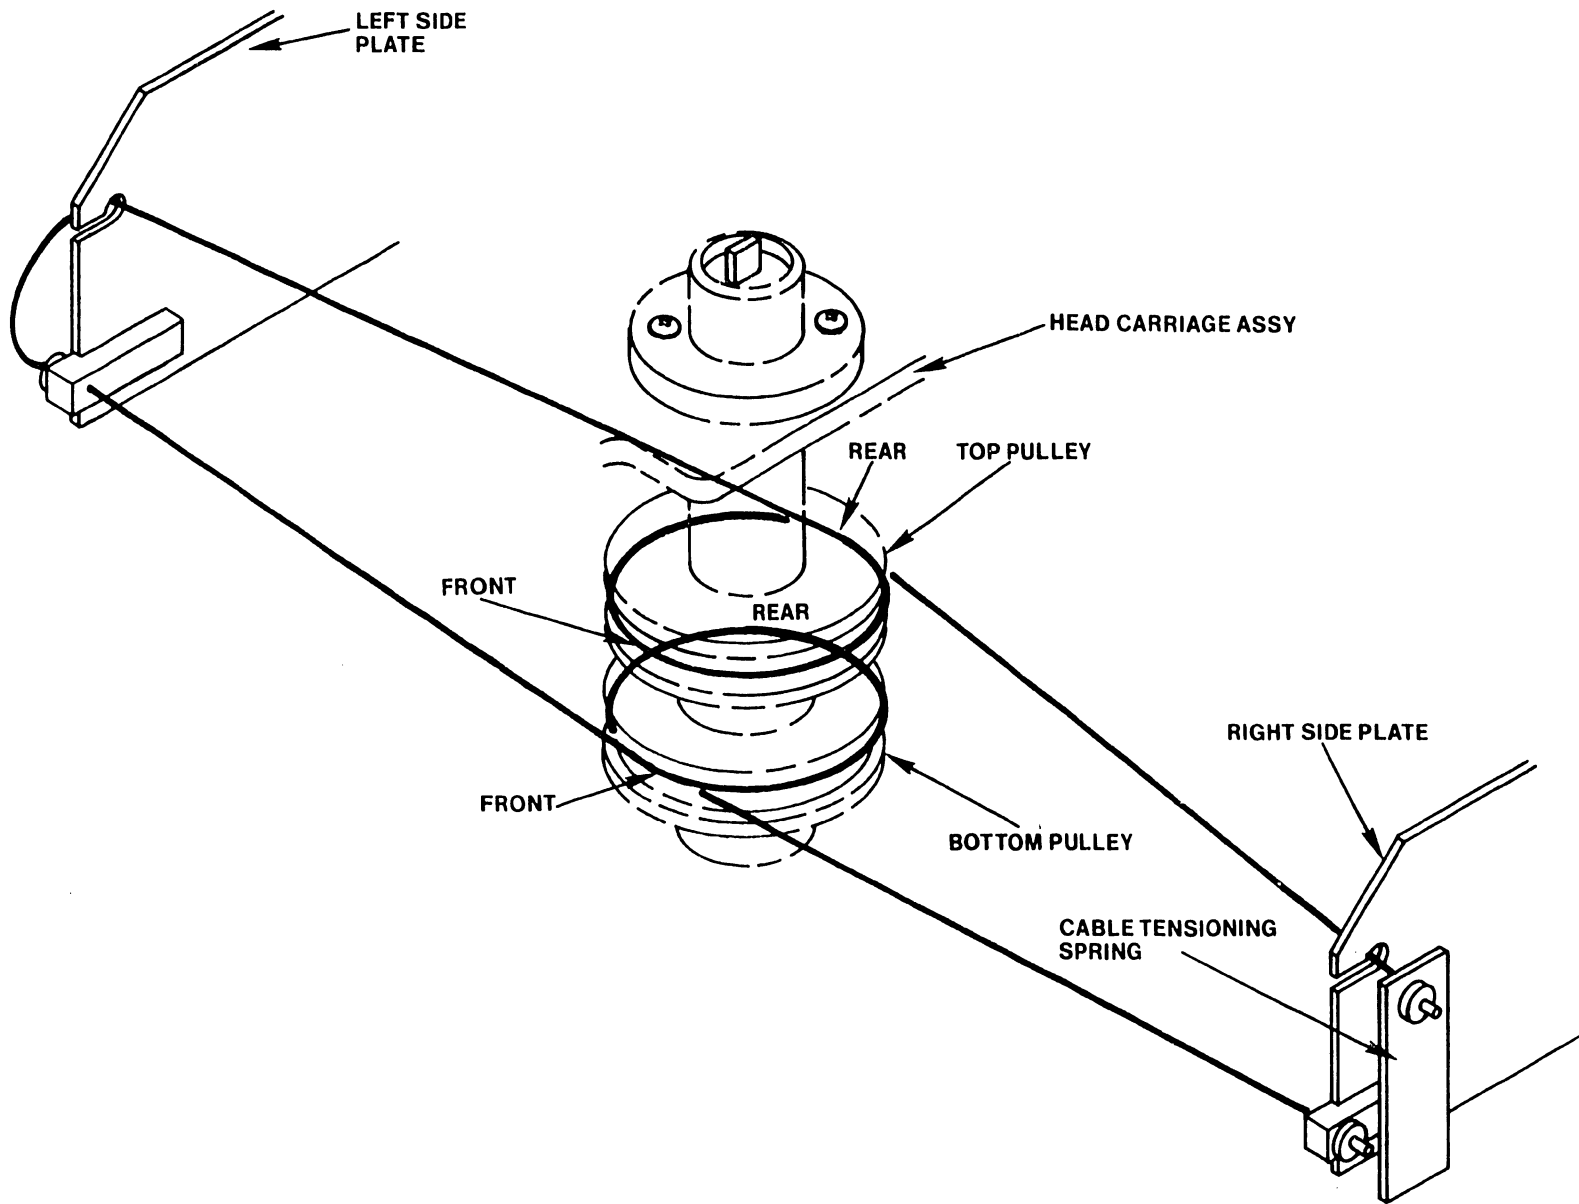

Figure 5-20 Top and Bottom Pulley Cable Diagram
- c. Reconnect the ribbon drive cable using the threading diagram shown in Figure 5-20.
- a. Remove carriage drive cable. To accomplish this, squeeze the cable tension spring located at the right end of the cable and unhook and remove the cable. Reinstall the carriage drive cable using the threading diagram shown in Figure 5-20.